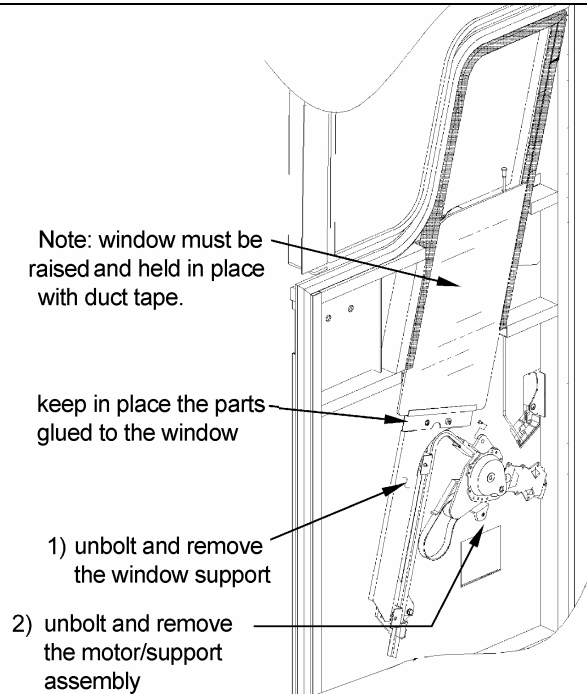

FIGURE 6
6. Remove the existing power window mechanism. Follow steps of figure 6.